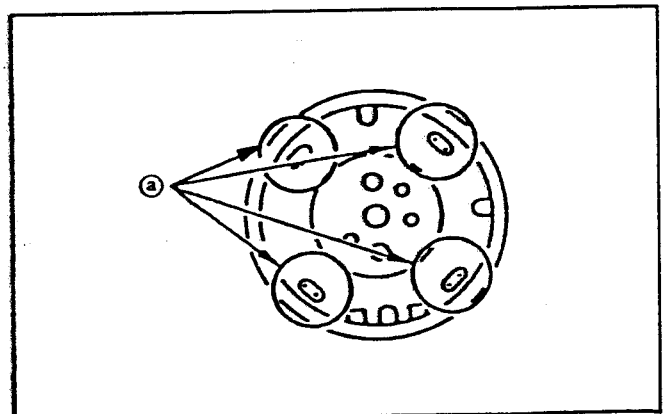

Fig. II-108
* Parts ⑨ in the Fig. II-108 are plug-in type. (Not soldered as in the conventional models)